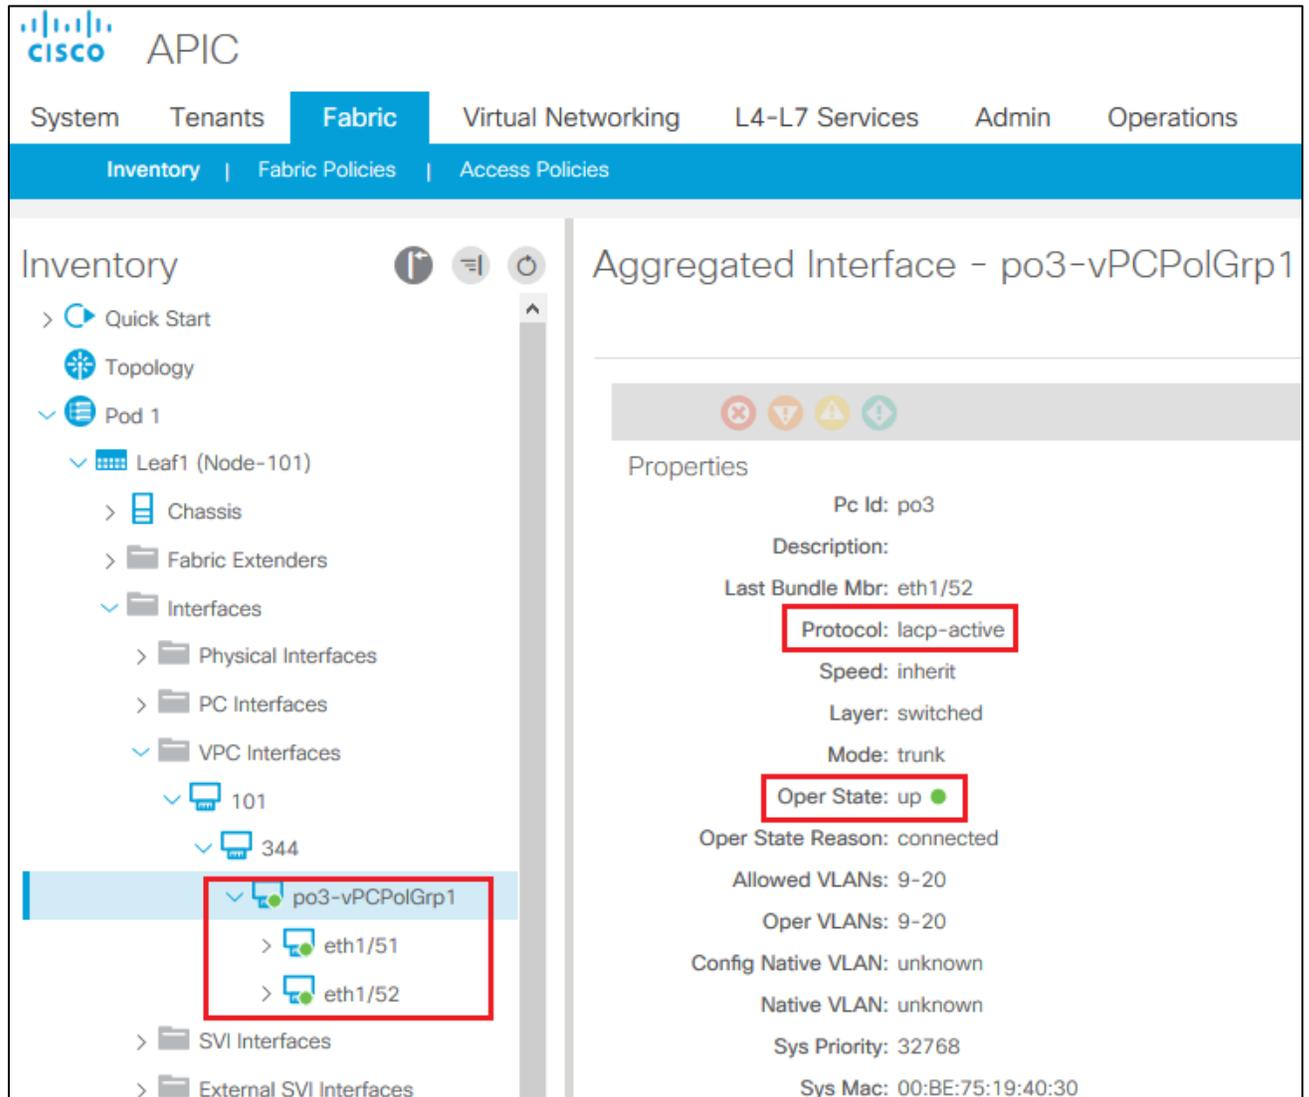

Figure 52 Cisco ACI vPC port channel and interfaces
1. In the APIC GUI, go to **Fabric > Inventory > Pod name > Leaf name > Interfaces > vPC Interfaces** and drill down to the applicable port channel/vPC policy group as shown in Figure 52.